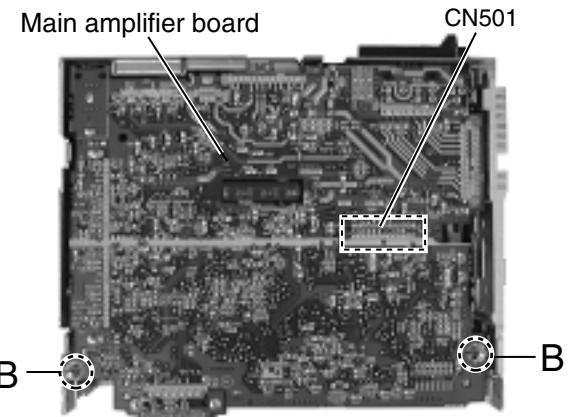

Fig.5
■ Removing the main amplifier board (See Fig.5 and 6)
- The main amplifier board (Refer to Fig.5 and 6)